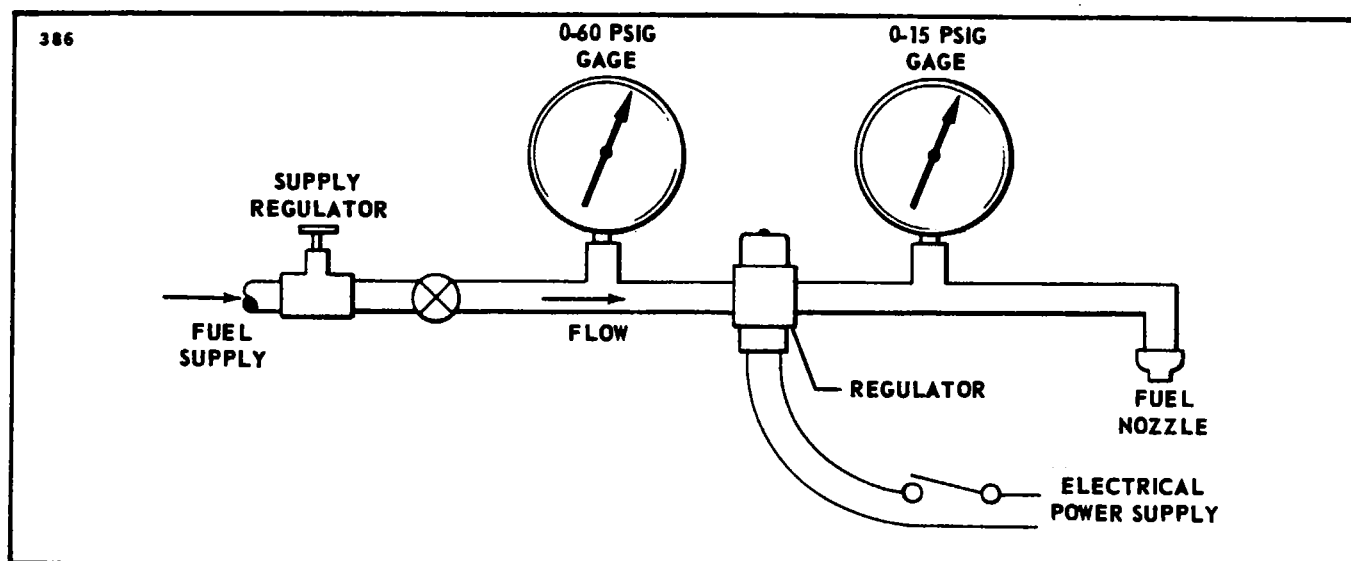

Figure 13-23. Test Setup for Fuel Regulator and Shutoff Valve
1. Install the regulator in a test stand similar to that shown in Figure 13-23.